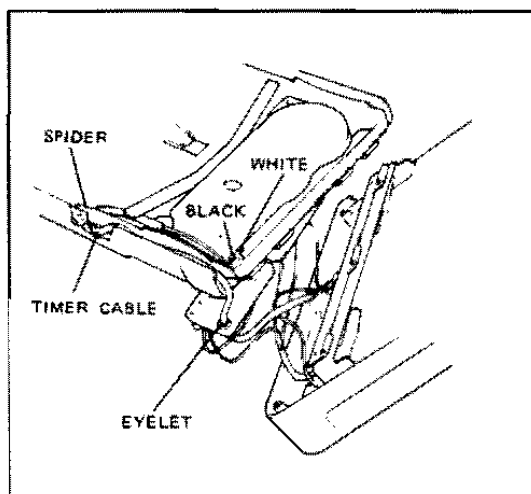

FIG. 4-33 RELEASING THE TIMER LEADS
- f. Unsolder the black and white leads from the timer (Figure 4-33) and draw the timer cable through the converter board eyelet. Remove the tubing from the cable and save for reuse.
- b. Slide the tubing on the timer wires and run the cable around the converter board. Run the cable through the rear door spider and solder the black and white leads to the timer (Figure 4-33).